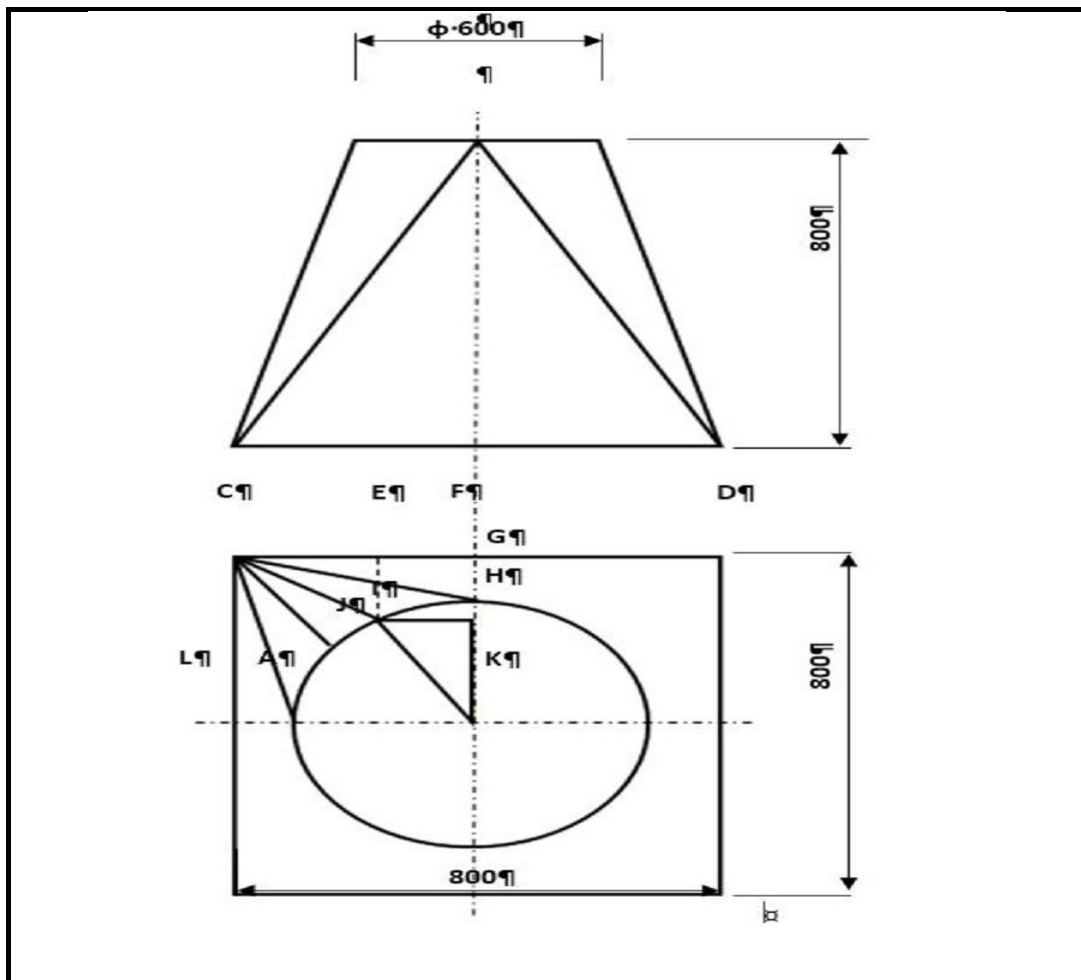

FIGURE 11.2
- 11.2 FIGURE 11.2 below shows a square-to-round transition piece. In order to develop the transition, the true lengths must be calculated: